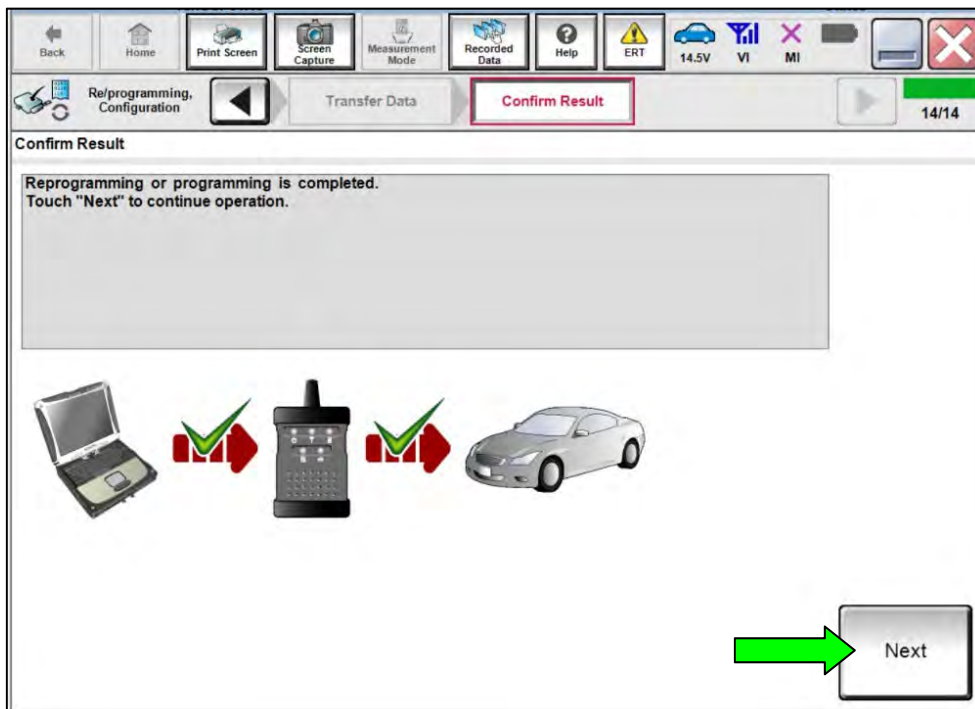

Figure 17
26. Once the screen in Figure 17 displays, the reprogramming is complete. Select **Next**.
- If the screen in Figure 17 does NOT display, indicating that reprogramming did not complete), refer to **ACU Recovery** on page 14.